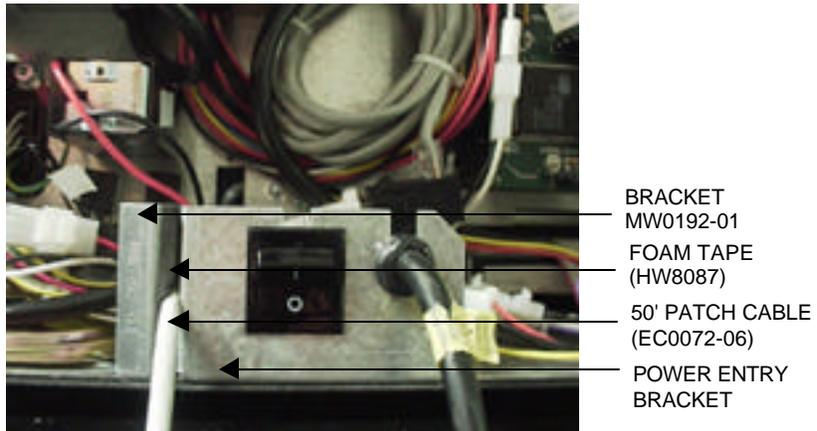

FIGURE 14 - FULL MAXX™ WITH COMPLETE INSTALLATION (CLOSE-UP OF POWER ENTRY BRACKET)
14. Remove the bracket (MW0192-01) next to the power entry bracket and note the orientation of the bracket (see Figure 14).
15. Adhere the foam tape (HW8087) to the notched surface that adjoins the power entry bracket (being careful not to cover the notches). See Figure 14.
19. Route the 50' cable next to the power entry assembly and connect it to the coupler inside the game. Use the thumbnuts to secure the 50' cable between the bracket with the foam tape and the power entry bracket. See Figures 14 and 15.